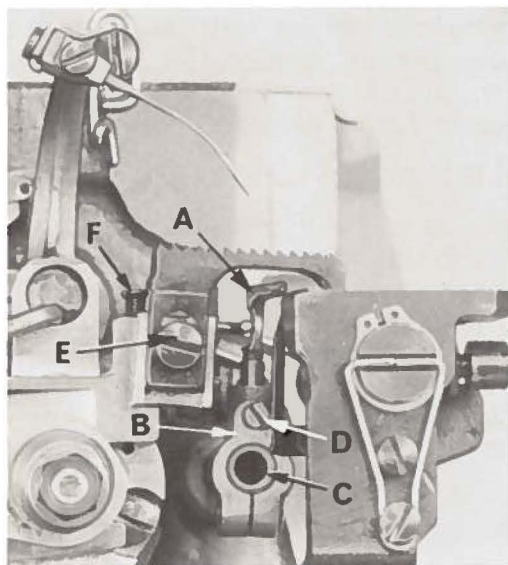
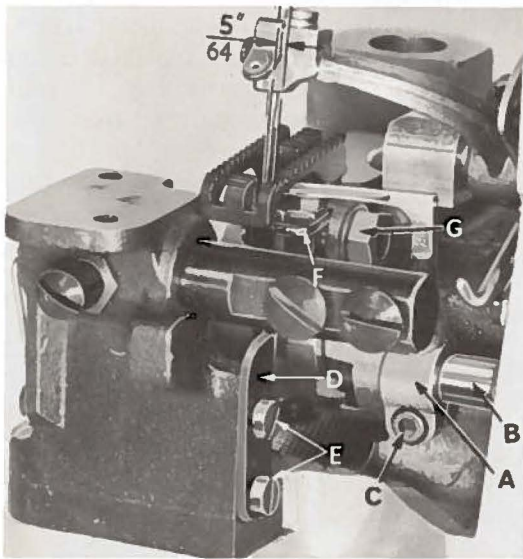
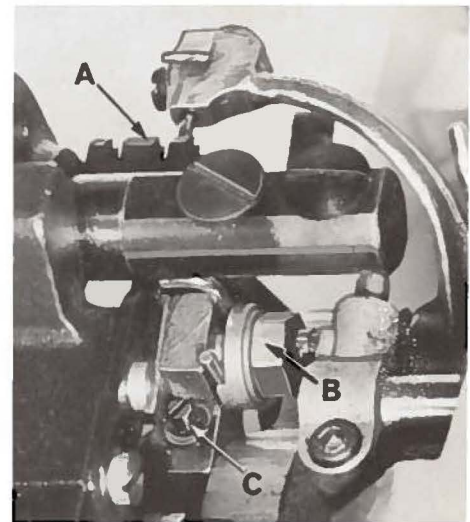

Fig. 4
Fig. 5
Fig. 6
The looper (A, Fig. 4) should be inserted in the looper holder (B) until its shank contacts the looper bar (C) and should be set so the flat side of the blade is parallel with the looper bar. Tighten screw (D). The looper holder (A, Fig. 5) should be set on the looper bar (B) so that the point of the looper is  $5/64$  inch to the right of the centerline of the needle when the looper is at its extreme right position (Fig. 5). The point of the looper must barely clear the back of the needle as it passes to the left. This can be accomplished by loosening screw (C, Fig. 5), reposition looper holder as required and retighten screw.
The needle must also clear the backside of the looper on the downstroke of the needle. The setting as outlined in the first paragraph gives the maximum amount of needle clearance behind the looper. To decrease the clearance and eliminate skipping, loosen screw (C, Fig. 5) and move holder to the rear and then loosen screw (D, Fig. 4) and move looper point forward to just clear the needle as it moves to the left. Retighten screws.
The front needle guard (D, Fig. 5) should be set as high as possible without interfering with the looper and clear the closest contacting surface of the needle by approximately .003 inch. This can be accomplished by loosening screws (E, Fig. 5), reposition front needle guard (D) as required and retighten screws.
The rear needle guard (F, Fig. 5) should be set as high as possible without interfering with the needle thread loop and deflect the needle .002 to .005 inch at the point of contact.
This can be accomplished by loosening nut (G, Fig. 5), reposition rear needle guard (F) as required and retighten nut.
The feed dog (A, Fig. 6) should be set so that the tips of its teeth extend the depth of a tooth above the throat plate at its high point of travel. This can be accomplished by loosening screw (E, Fig. 4), turn the feed dog height adjusting screw (F) as required and retighten screw (E). The feed dog must also be tilted so the end closest to the operator is .005 to .010 inch lower than the rear teeth. Loosen nut (B, Fig. 6) and turn screw (C) as required to obtain the proper tilt angle. Turning the screw clockwise will lower the front of the feed dog, turning it counterclockwise acts the reverse. Recheck rear needle guard setting and tighten nut (B).